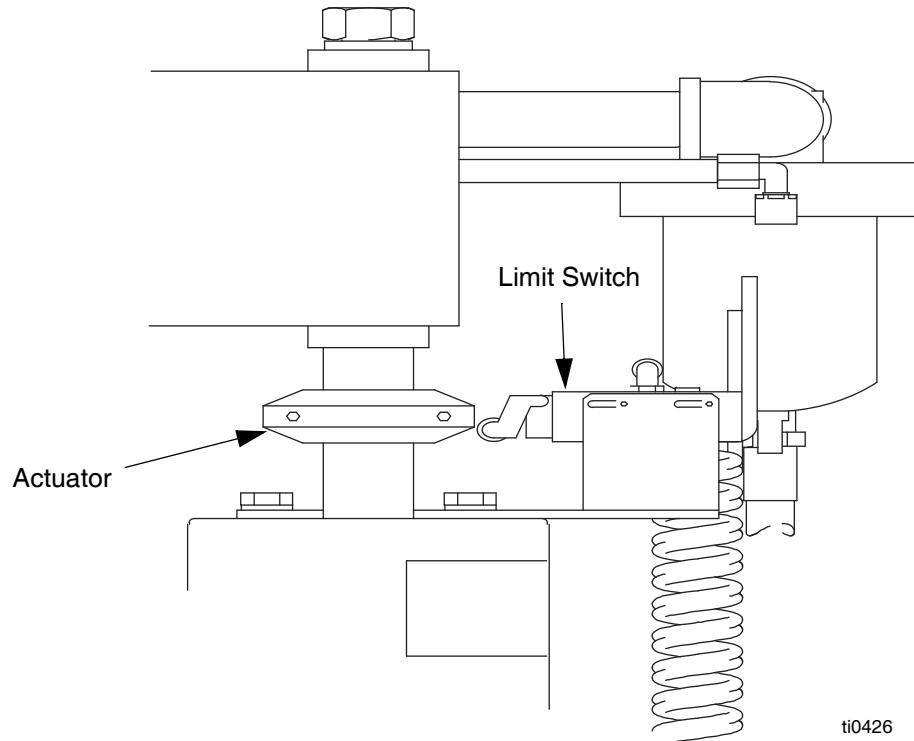

FIG. 18
Low/Empty Limit Switch Replacement (FIG. 18)
9. Make sure that the limit switch roller is positioned in the same location per the measurement in step 5. See FIG. 18 on page 43.